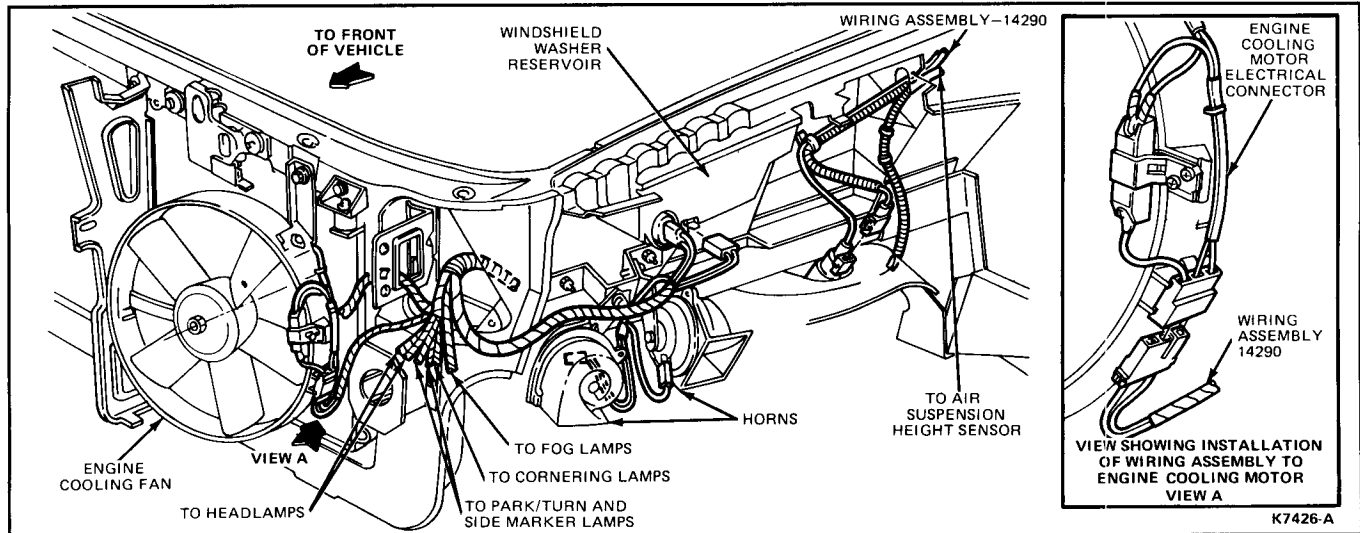

FIG. 1 LH Apron Wiring
Refer to Figs. 1 through 5.
1. Disconnect wiring harness 14290 from main wiring harness 14401 at front of LH apron (Fig. 1).
2. Disconnect wiring harness 14290 from forward headlamp wiring and other connections shown in Figs. 1 and 2.